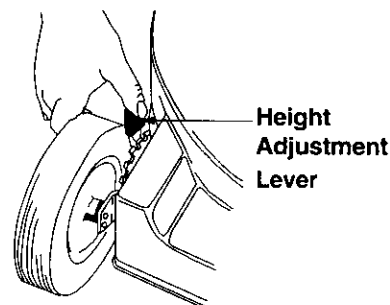

Figure 21
- Simply depress the lever towards the wheel and move the lever assembly to desired position. See Figure 21.